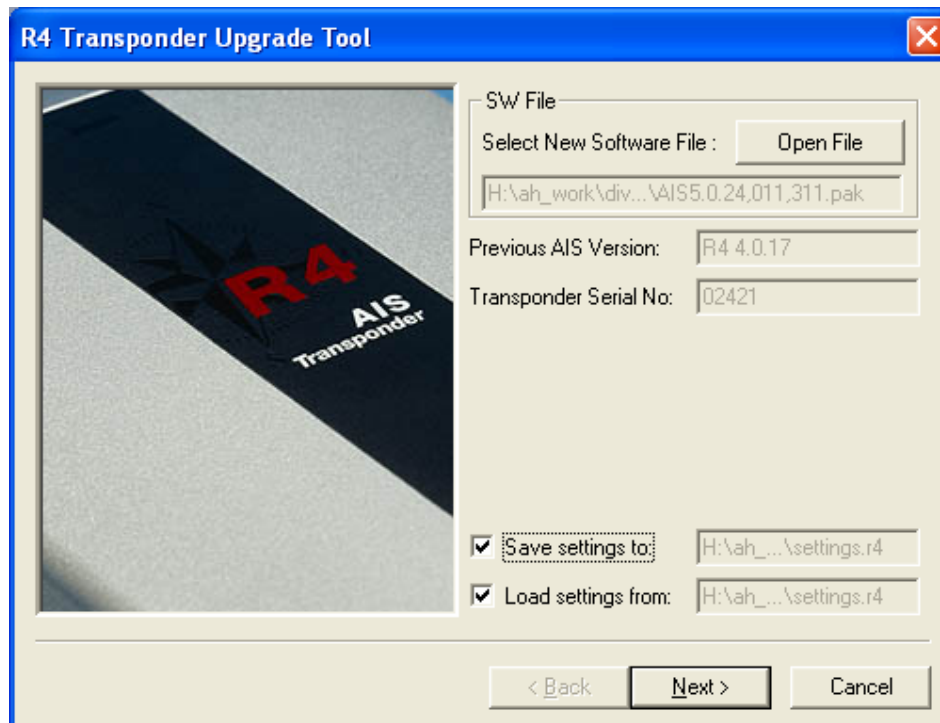

Figure 4: Select File Dialog
6. In the second dialog (Figure 4), Press the ‘Open File’ button and locate the appropriate .pak file for the upgrade process